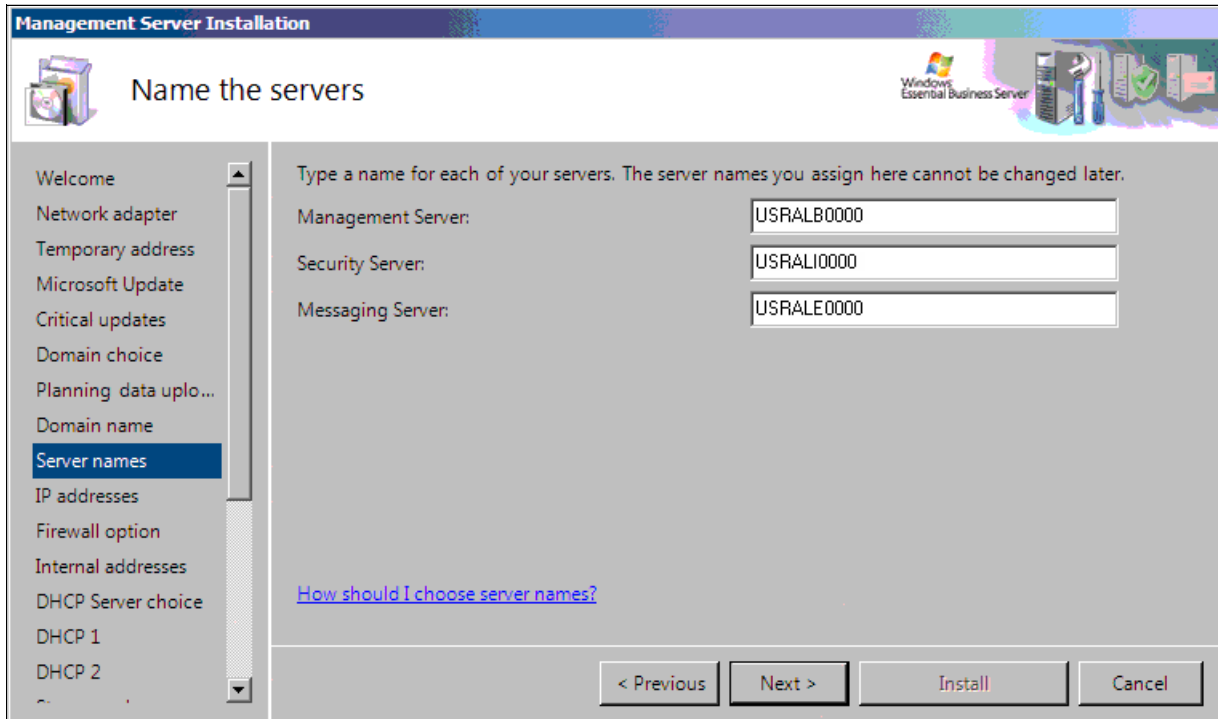

Figure 4-11 Name the servers
17. On the “Name the servers” panel (Figure 4-11 on page 97), type the names of your servers. Refer to Appendix B, “Server Naming Convention” on page 175 for accepted server naming conventions. Click **Next**.